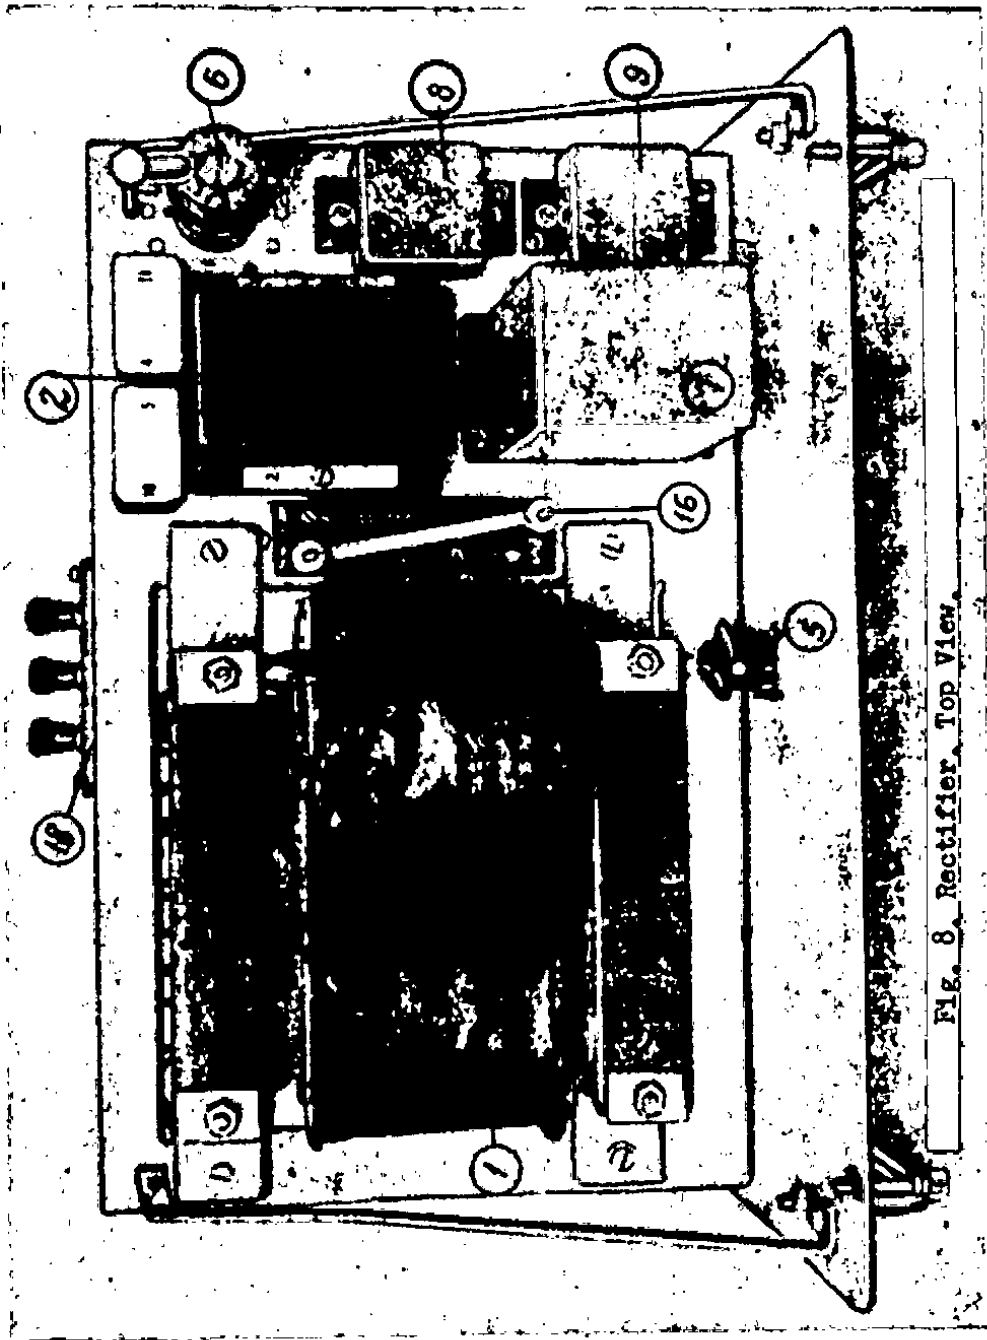

FIG. 8. Rectifier, Top View.
The rectifier, provided with a ferro-resonance voltage stabilizer, is mounted on a steel chassis. (see Fig. 8). Located at the top of this chassis are two filter sections, as part of the voltage supply circuit (pos. 3 - 10 and 4 - 11); tube 5 Ts4S (pos. 6); a plate filter choke (pos. 2); a ferro-transformer (pos. 1), and the plate filter capacitors (pos. 8 and 9).